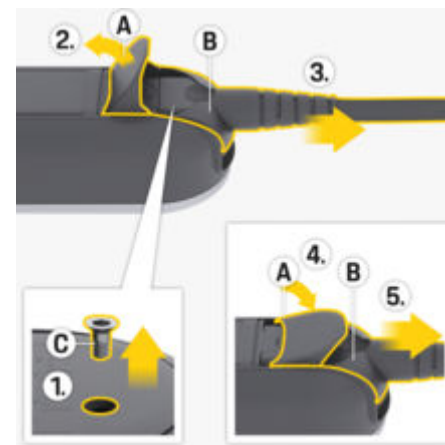

Fig. 31 Disconnecting the supply cable
1. Remove screw **C** (Fig. 31) using a suitable tool.
2. Fully open cover **A** (Fig. 31).
3. Pull out plug **B** (Fig. 31) until you feel initial resistance.
4. Close cover **A** (Fig. 31) to around 15 degrees (the cover can rest on plug **B** (Fig. 31)).
5. Pull out plug **B** (Fig. 31) fully.